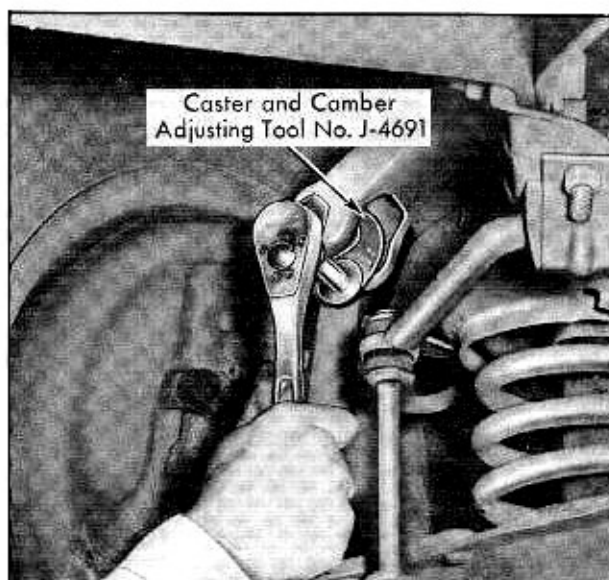

Fig. 6-7 Caster and Camber Adjustment
2. Turn eccentric bushing with Caster and Camber Adjusting Tool No. J-5343 in complete turns only until correct caster angle is obtained, Fig. 6-7. (0° to -1° , $-1/2^{\circ}$ preferred) - Adjustment readings (left and right) must be within $1/2^{\circ}$ or less.
2. Rotate eccentric bushing using Caster and Camber Adjusting Tool No. J-5343 to give correct camber setting at each front wheel, Fig. 6-7. The limits for this adjustment are 0° to $-3/8^{\circ}$ (0° preferred) and not to exceed $1/2^{\circ}$ difference from one side of car to the other with never more positive camber on the right wheel than the left.